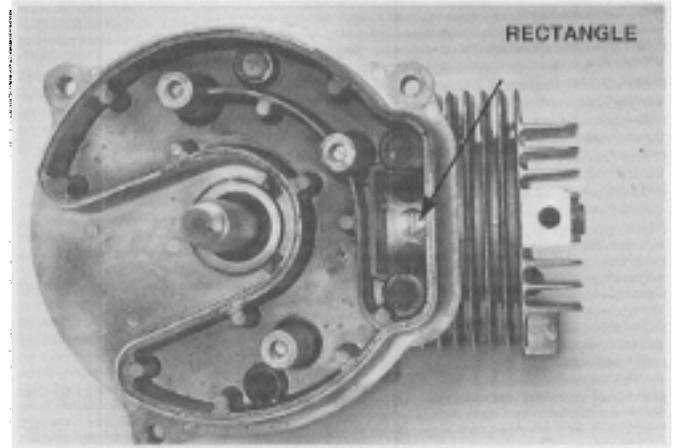

Figure 77
6. Oil parts and use piston stop (p/n 677389) and ring compressor (p/n 609967) to install piston with "BTM" mark facing down toward exhaust ports (Figure 77).